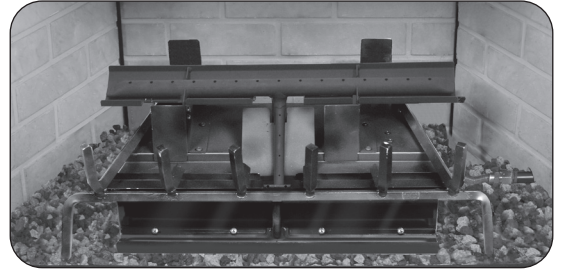

Fig. 9-1 Place lava media
1. Spread the supplied lava granules on the floor of the fireplace, around the front and sides of the burner system (see Fig. 9-1).